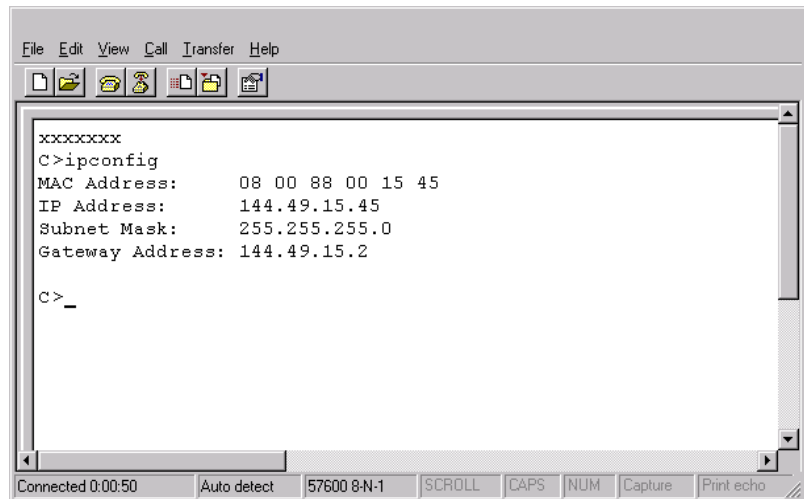

Figure 3-24 Intrepid 6064 - HyperTerminal Dialog Box
- j. At the **C>** prompt, type **ipconfig** and press **Enter**. The *Intrepid 6064 - HyperTerminal* dialog box (Figure 3-24) displays with configuration information listed, including the IP address.